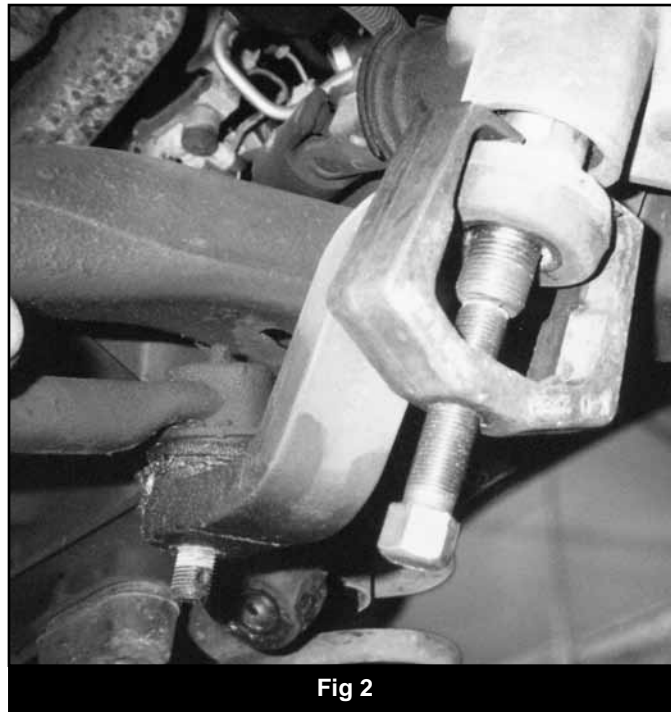

Fig 2
13. Remove the pitman arm nut from the sector shaft. Note the orientation of the pitman arm and remove the arm from the sector shaft using the appropriate puller (Fig 2).